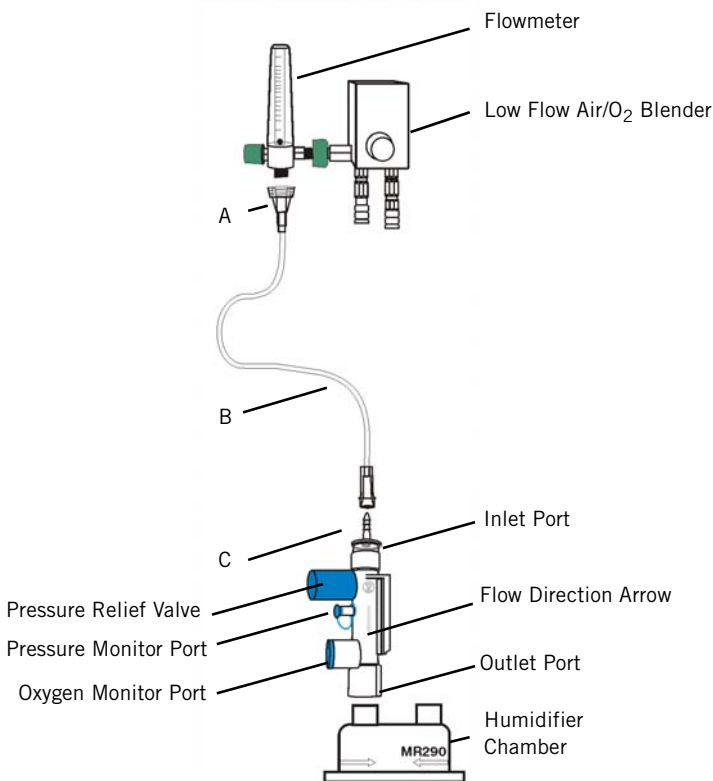

Figure 4: Flowmeter, Pressure Relief Valve and Humidifier Chamber connections
8. Locate the oxygen tubing (B in Figure 4) with the built-in threaded flowmeter connector (A in Figure 4). Connect the female threaded end of the oxygen tubing onto the outlet of the flowmeter.
9. Connect the other end of the oxygen tubing to the pressure relief valve via the barbed portion of the 15 mm barbed adaptor (C in Figure 4).